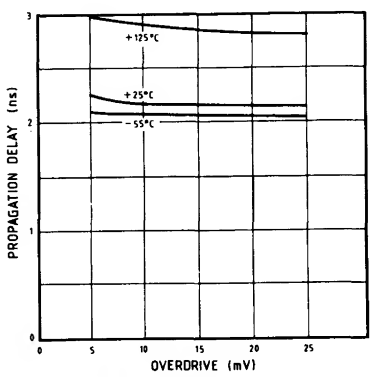

Fig. 6 Propagation delay, input to output as a function of overdrive
1. These measurements are defined under conditions of a +100mV pulse with -10mV overdrive. The relationship between overdrive and delay is illustrated in Figs. 6 to 8.